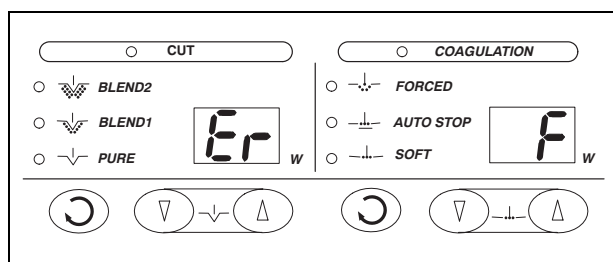

Figure 5.10
- The output controlled by the first pedal pressed will be activated. Furthermore, when both pedals are pressed simultaneously no output power is resulted and the output setting indicators will be displayed as shown Figure 5.10.